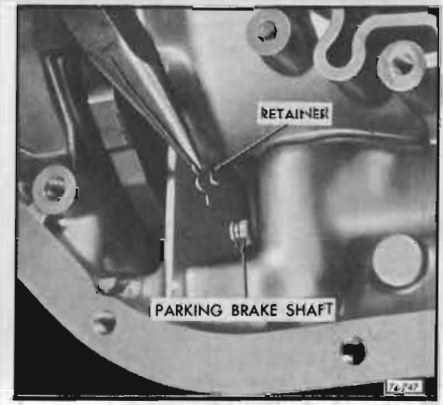

Figure 74-747
2. Install the parking pawl shaft retainer clip. See Figure 74-747.